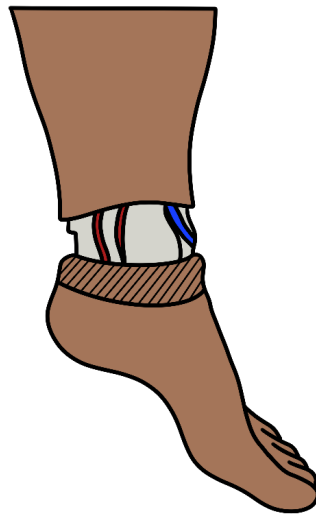

Figure 16. Application of the Foot Skin Layer
- a. Fold the ankle portion of the skin down and around the heel of the foot (as seen in **Figure 16**), then place the foot portion of the base unit inside the foot skin. Once the foot portion of the base unit is securely inside the foot skin, place the ankle portion of the skin around the muscle attachment points.